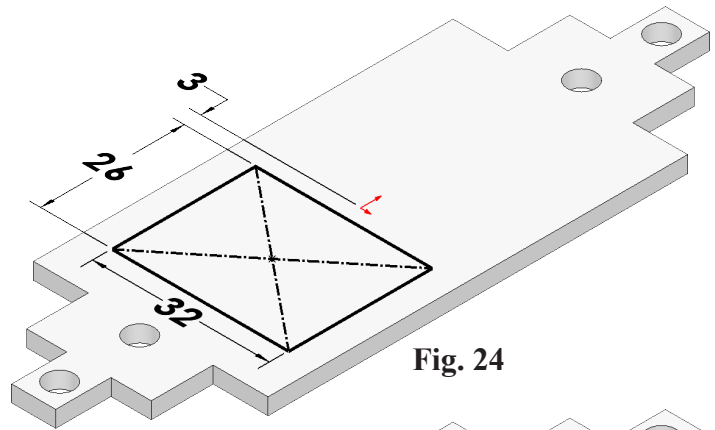

Fig. 24
Step 6. Click **Smart Dimension** (S) on the Sketch toolbar.
Step 7. Add dimensions, **Fig. 24**.